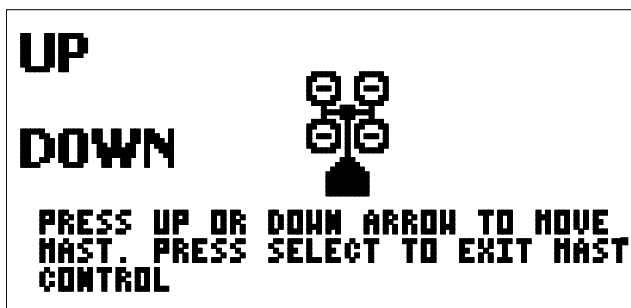

Figure 3-17. Lowering the Mast Screen
2. Press the up/down arrows next to the controller display until the mast screen is shown. See Figure 3-17.